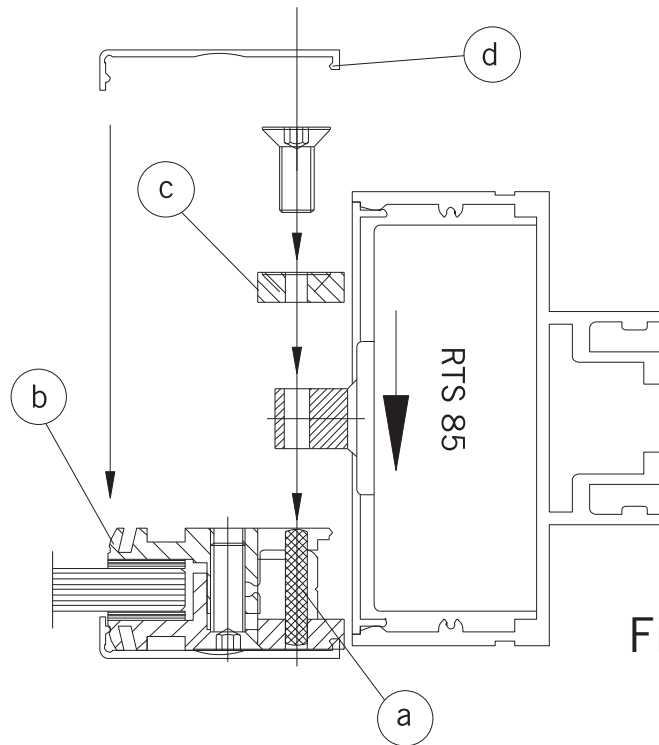

Fig. 17
17. Mounting the double action sliding panel with RTS 85 transom concealed hydraulic door closer (Fig. 17):